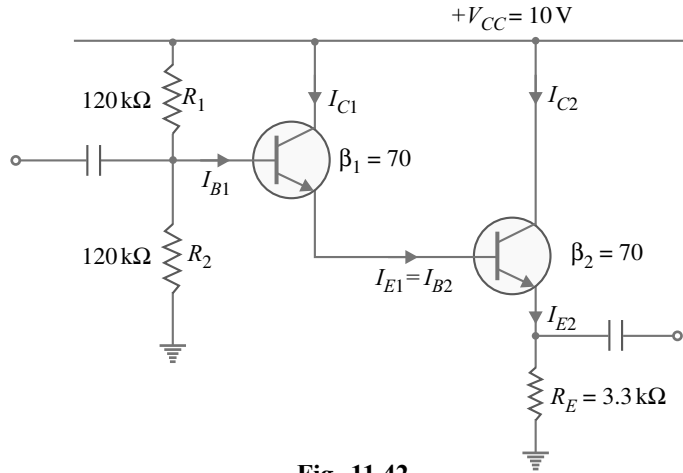

Fig. 11.42
**Example 11.32.** Determine (i) d.c. value of current in  $R_E$  (ii) input impedance of the Darlington amplifier shown in Fig. 11.42.